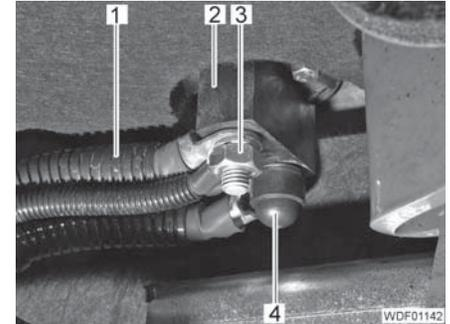

Fig. 430 Electrical connections
- Remove the battery disconnect switch (Fig. 430,2) out of the step plate from below.
- Remove the 2 caps (Fig. 430,4).
- Unscrew the 2 nuts (Fig. 430,3).
- Disconnect the cable (Fig. 430,1) from the battery disconnect switch.
- Connect the cable (Fig. 430,1) to the battery disconnect switch.
- Tighten the 2 nuts (Fig. 430,3).
- Fit the 2 caps (Fig. 430,4) onto the nuts.
- Insert the battery disconnect switch (Fig. 430,2) through the step plate from below.